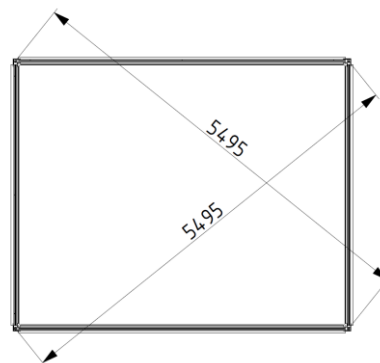

fig. 13
- the perpendicularity of the foundation is achieved by measuring the diagonals. (*fig. 13*)
- measure from the fixed PVC pipe (item K2) diagonally to the opposite PVC pipe (item K2), do the same with the other two PVC pipes (item K2). (*fig. 13*)
- the aligned foundation is drilled diagonally from the fixed PVC pipe (item K2) to the opposite PVC pipe (item K2). (*fig. 13*)